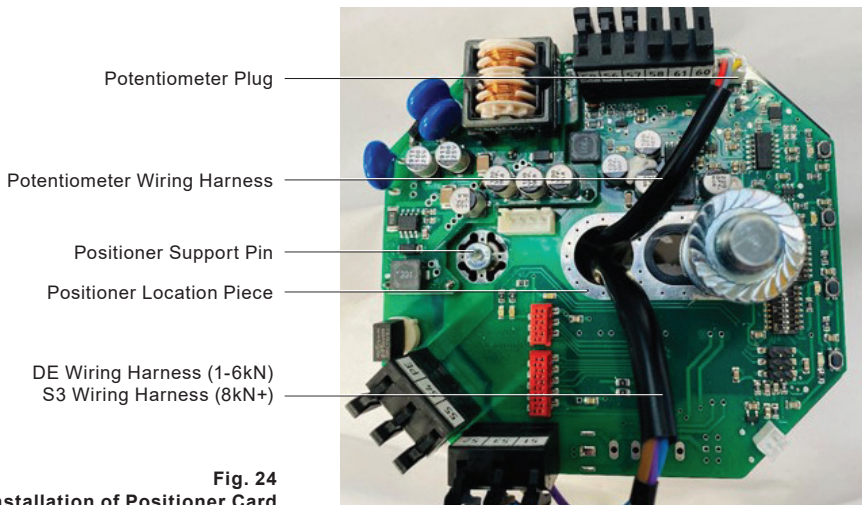
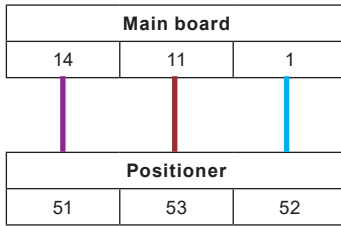
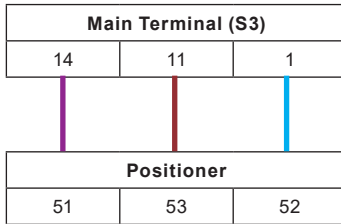

Fig. 24
Fig. 25 Positioner Installation Terminal Diagram (1 – 6 kN)
Fig. 26 Positioner Installation Terminal Diagram (8 kN+)
- 1 - 6 kN: Connect the DE wiring harness (orientation shown in Fig. 24) as indicated in Fig. 25 "Positioner Installation Terminal Diagram (1 - 6 kN)"
- 8 kN+: Connect the cores of the potentiometer wiring harness to the main terminal rail (Fig. 26), and connect the potentiometer plug to the potentiometer socket on the positioner card referring to Fig. 24 "Installation of Positioner Card" for product orientation. The potentiometer wiring harness should be fed through the center of the positioner card as shown
- 8 kN+: Connect the DE wiring harness as indicated in Fig. 26 "Positioner Installation Terminal Diagram (8+ kN)"